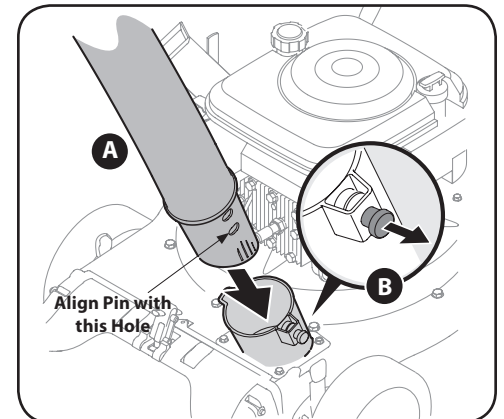

Figure 3-4
- Slide hose adapter of hose assembly into the base adapter located on the left front of the chipper shredder vacuum. See A in Figure 3-4.
- Pull spring loaded pin out on the base and align pin with the first hole (closest to the end of the tube) in the hose adapter. See B in Figure 3-4.